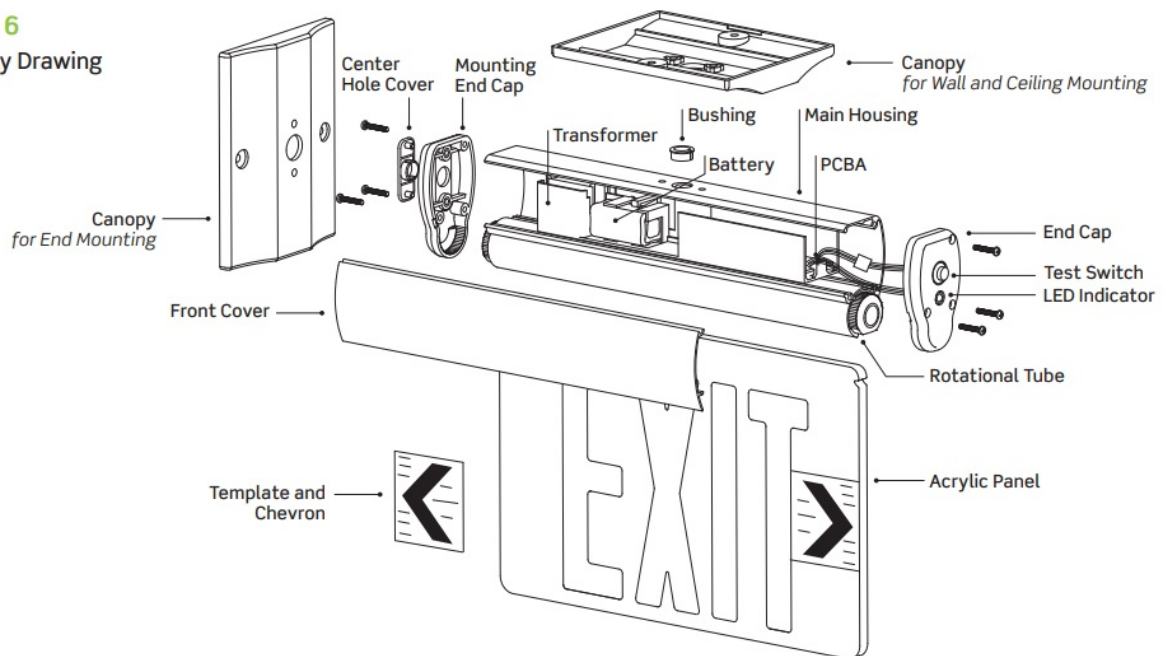

FIGURE 7
3. Remove Test Switch and LED Indicator Bushing from Trim Plate (Figure 7)